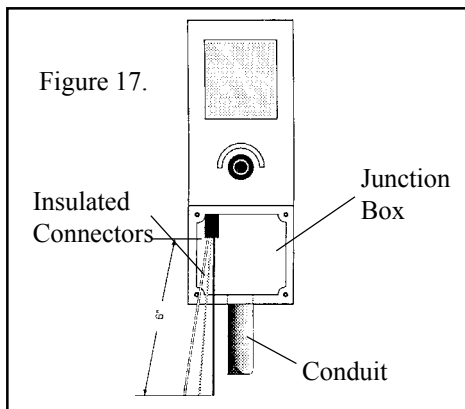

Figure 17.
13. Pull cord out of the junction box and strip a six (6) inch section of the outer insulation jacket from the cord, see Figure 17.